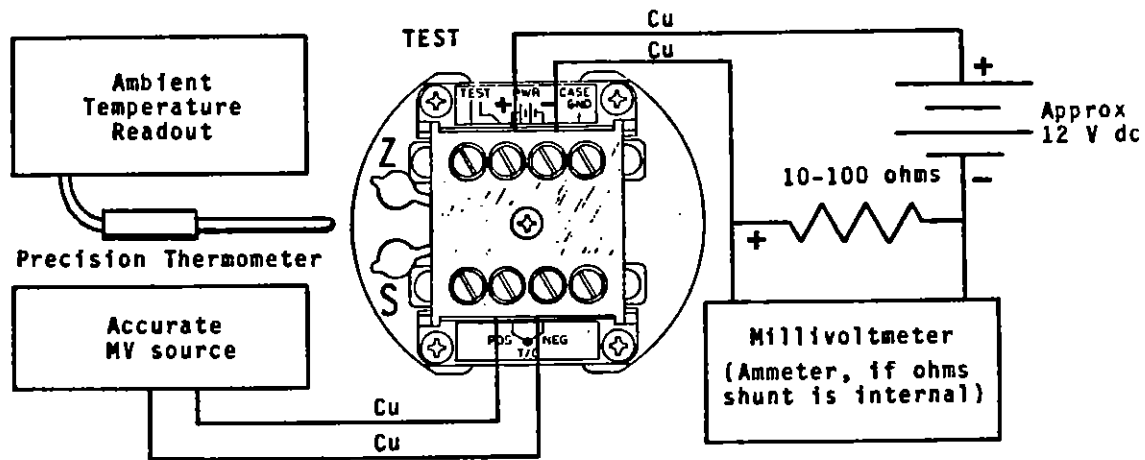

Figure 5-2 Copper-Wire Calibration
4. Refer to Figure 5-2, Page 6. Attach two insulated copper wires to the 502A-K T/C input terminals from the microvolt calibration source (twisted-shielded pair recommended for pickup rejection).